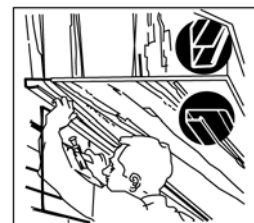

FIG. 32 Installation of Soffit on Enclosed Rafter
11.3 *Installation of Soffit on an Enclosed Rafter* (See Fig. 32.):